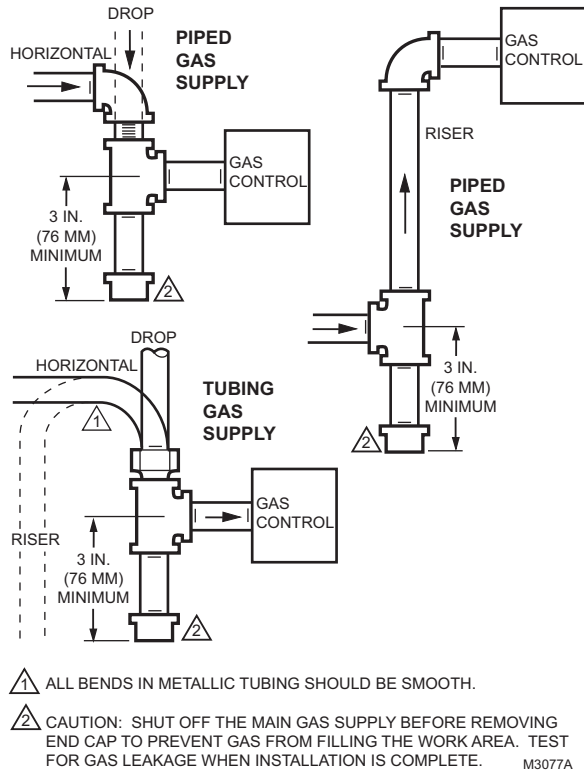

Fig. 11. Install sediment trap.
3. Install a sediment trap in the gas supply line. See Fig. 11 on page 11.